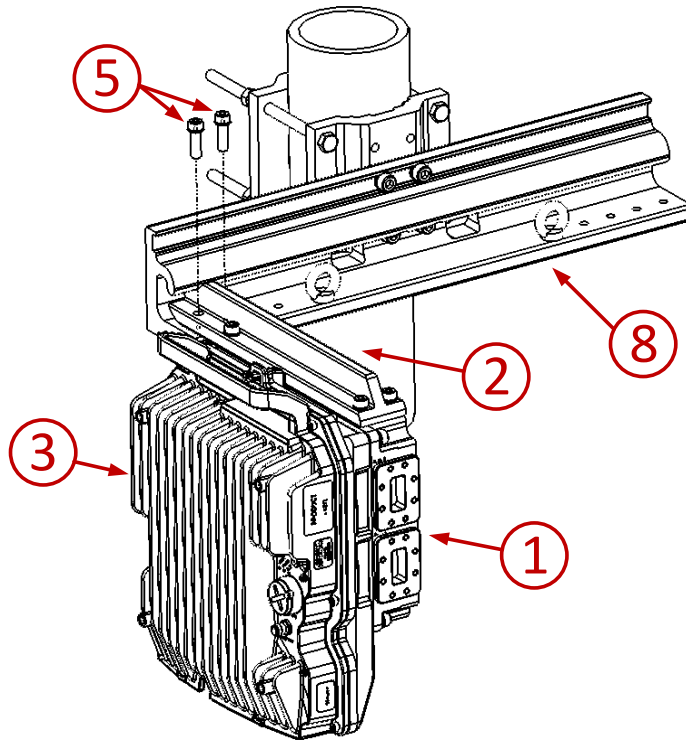

Figure 54: Securing the OCU-Radio Unit to the Branching Pole Profile
- 3 Partially attach the OCU-radio unit to the Branching Pole Profile with the two M8-30 screws included in the OCU kit, along with the remaining helical and flat washers, as shown in Figure 54. It is very important that at this point in the procedure, you do not fully tighten the screws. The screws should only be fully tightened after all the U-Bends and (if necessary) Terminations have been attached!
When you have finished installing all waveguides, and all of the radio ports have been covered, you must fully tighten the two M8-30 screws that attach the OCU-radio unit to the Branching Pole Profile as shown above in *Figure 54*.